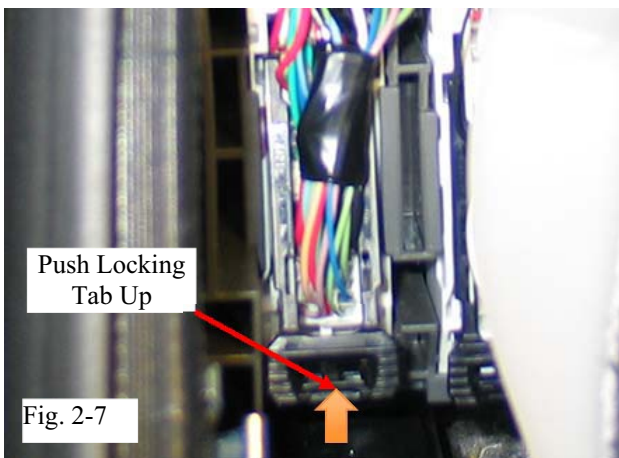

Fig. 2-7
- h) Remove connector from connector block by pushing locking tab up and pulling black lock mechanism out as shown. (Fig. 2-7)